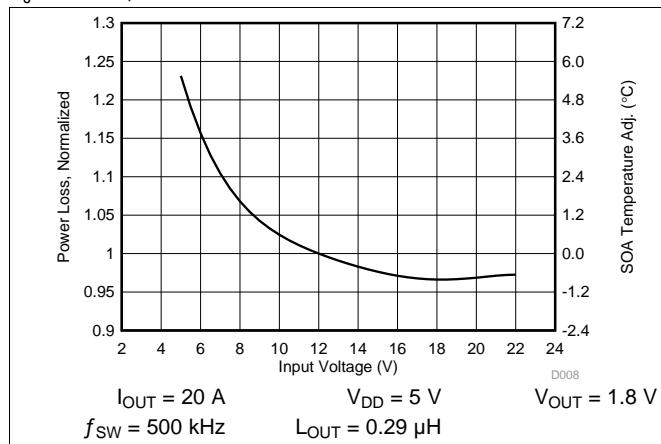

Figure 10. Normalized Power Loss vs Input Voltage
- Normalized Power Loss for input voltage  $\approx 1.10$  (Figure 10)
- SOA adjustment for input voltage  $\approx 2.5^{\circ}\text{C}$  (Figure 10)